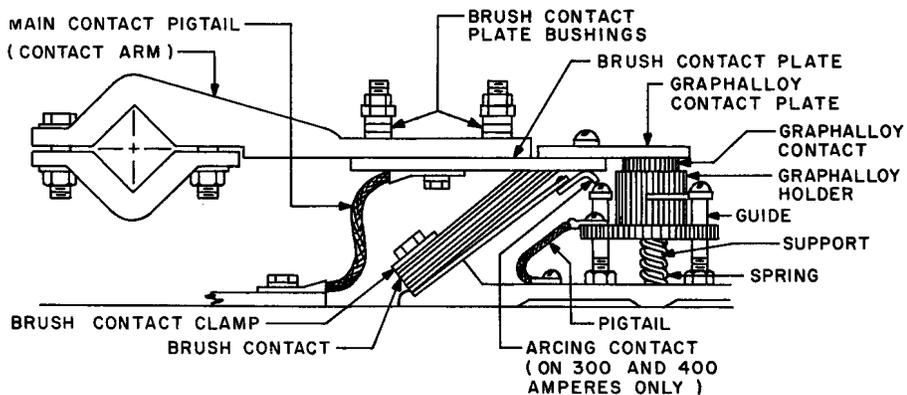

Fig. 9 - Main Contact Structure of 200-, 300-, and 400-Ampere Contactors
3.10 Graphalloy Contacts — See Fig. 9 and 10
3.11 Brush and Graphalloy Contact Plates — See Fig. 9 and 10